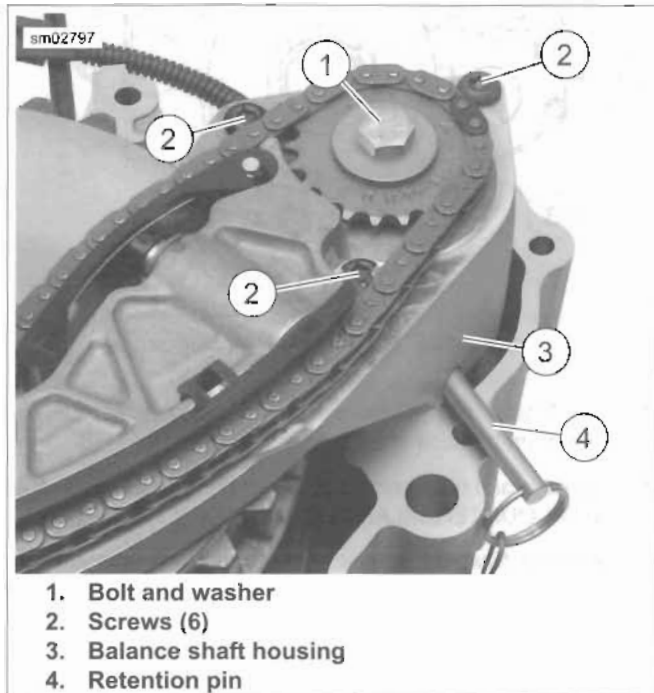

Figure 3-125. Balance Shaft Support (Front Balance Assembly Shown)
1. See Figure 3-125. Rotate flywheel assembly to align holes in balance shafts with holes in balance shaft housing (3).